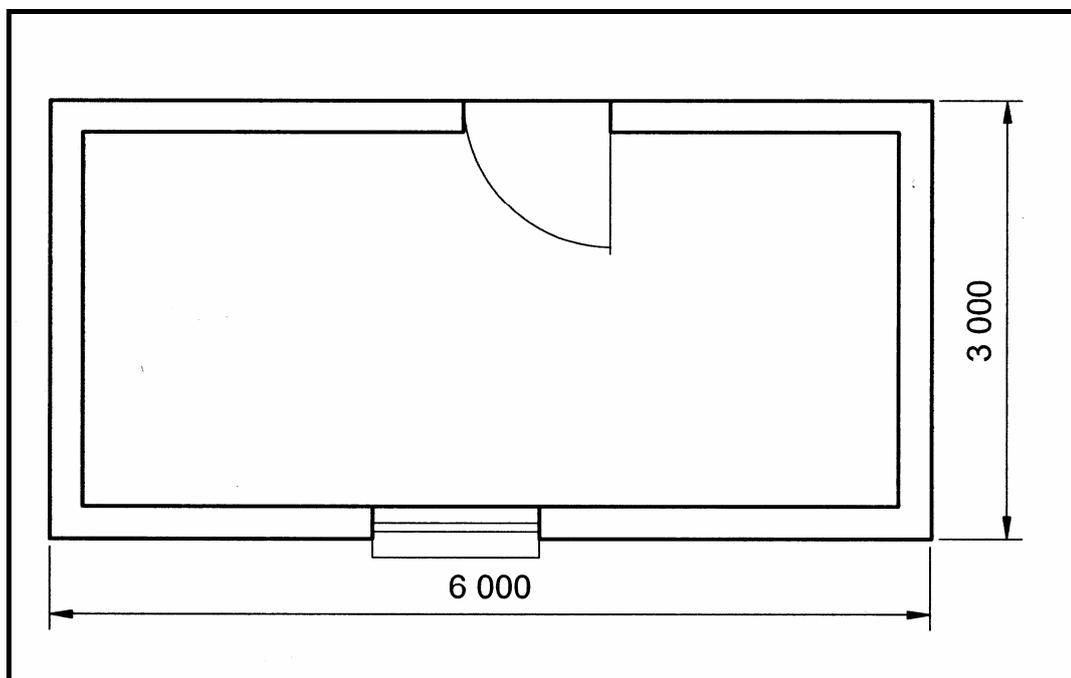

FIGURE 4.4
- 4.4 FIGURE 4.4 shows the floor plan of a building of which the floor must be tiled and the inside walls must be painted.
Study FIGURE 4.4 carefully and answer the questions that follow.